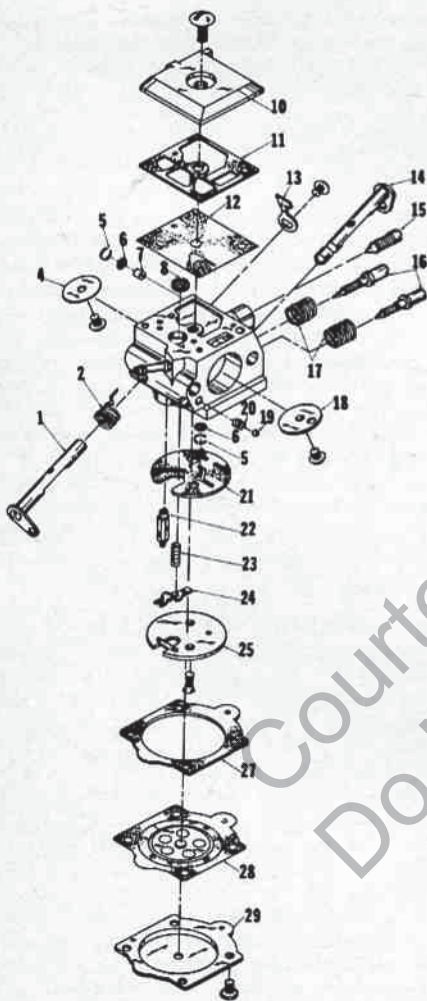

Fig. HL1—Exploded view of Walbro series HDC carburetor. Model HDC-1 carburetor is used on model EZ Automatic; HDC-2 is used on model EZ.
CARBURETOR. Refer to Fig. HL1 for exploded view of Walbro series HDC carburetor. A model HDC-1 carburetor is used on model EZ Automatic and a model HDC-2 is used on model EZ. Carburetors are alike except for size of fuel limiting jet (7). For description of carburetor operating principles and carburetor overhaul procedure, refer to **HOMELITE PICTORIAL SERVICE GUIDE** for model EZ and EZ Automatic Chain Saws.